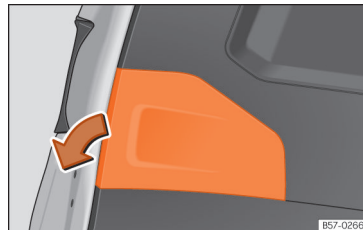

Fig. 61 Rear lid open: remove the cover.
- Remove the rear lid cover in the direction indicated » **Fig. 61.**